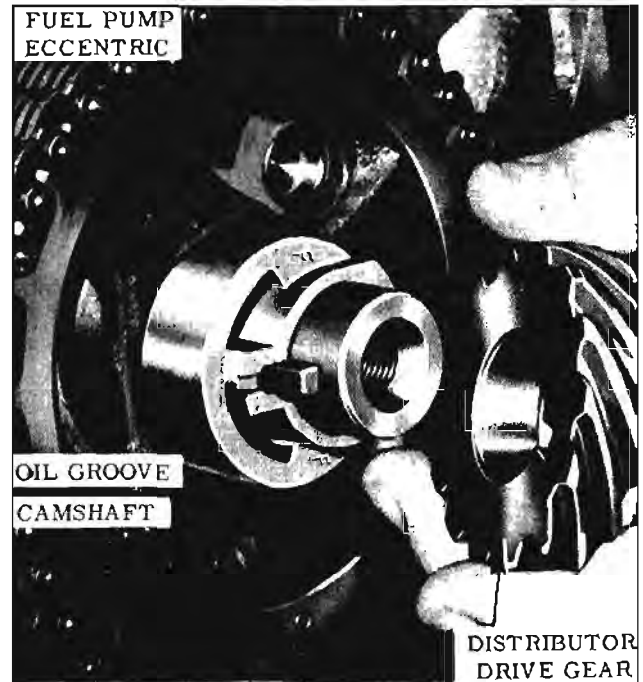

Fig. 8-145 Fuel Pump Eccentric
2. Install fuel pump eccentric with flat side rearward, distributor drive gear, washer and bolt. Torque bolt 40-45 ft. lbs. (Fig. 8-145)